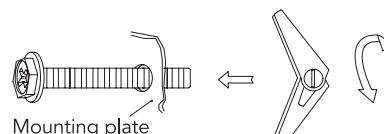

Figure 19
- Insert toggle bolts through mounting plate at required locations and add the spring loaded toggles. See Figure 19.